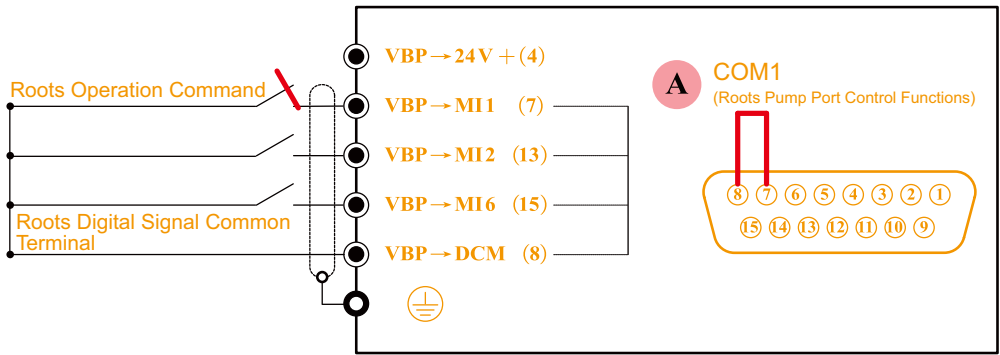

Figure 5 Roots Pump Run Command Wiring Method
- 2.2 Short VBP-MI1 and VBP-DCM to run the Roots pump (as shown in Figure 5 "Roots Pump Run Command Wiring Method")